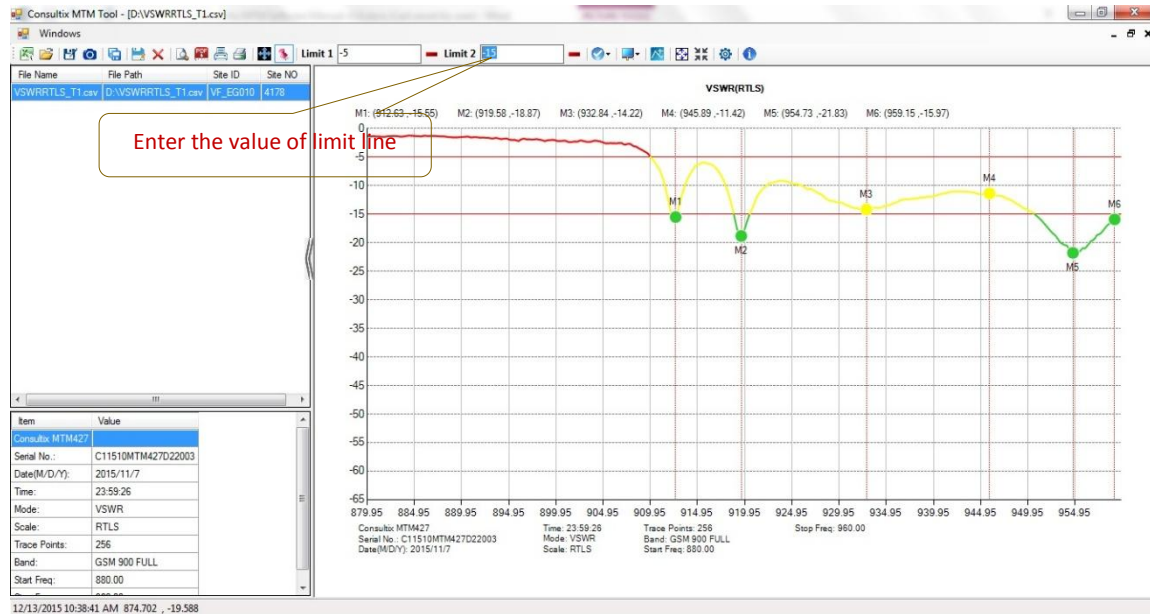

Figure 7, Adding Limit Lines
- 1- Add limit lines: from **Function Toolbar**, enter the limit line value in “**Limit 1**” textbox and/or “**Limit 2**” textbox then click enter as shown in figure 7